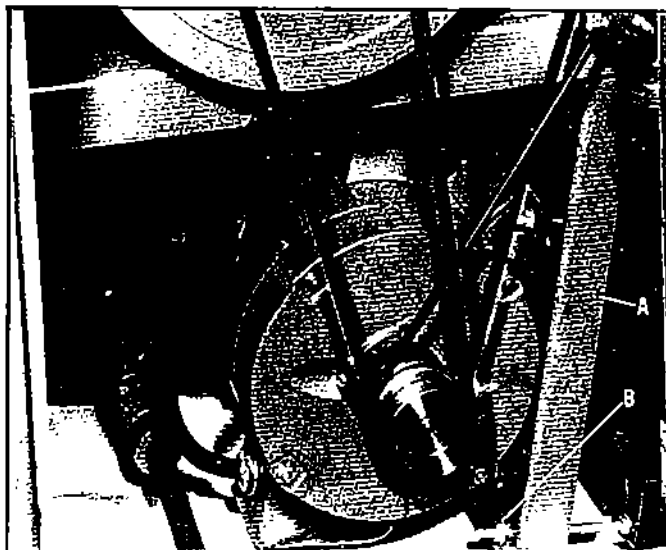

Fig. 7
2. Move the motor mounting plate (A) Fig. 7, to the right or left, by turning the adjusting nuts, one of which is shown at (B) Fig. 7, until correct tension is obtained.